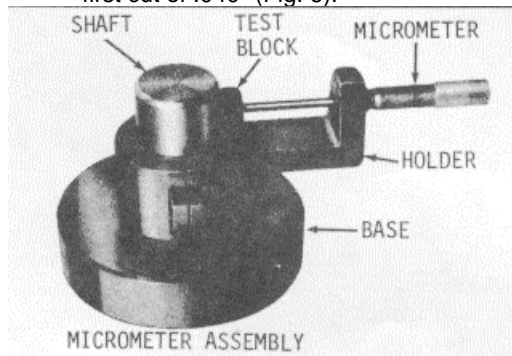

Fig. 5 Test Fixture and Micrometer
- (7) Zero the micrometer with the test lock supplied (Fig. 5).